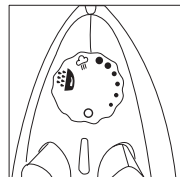

Figure 1: Variable Steam/
- Fit the Iron to the stand (6), so the cord adaptor (4) & power cord (3) are connected to the Iron.
- Set the Variable Steam / Self Clean Control (15) to the "0" position (Fig 1).
- Adjust the temperature control dial (10) to the required setting.